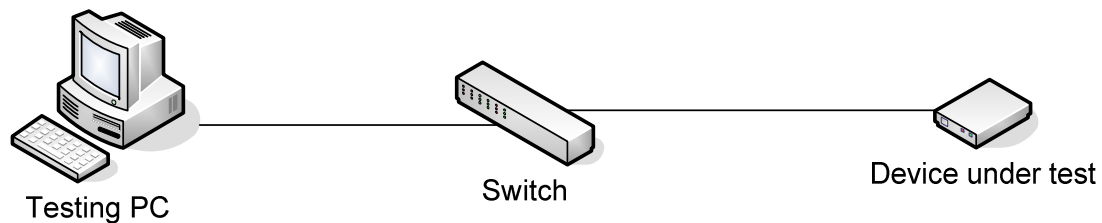

Figure 3. Network setup
- Setup the device. Ensure the device to be tested is powered on and connected to the testing PC via a switch, as indicated in figure 3 below: